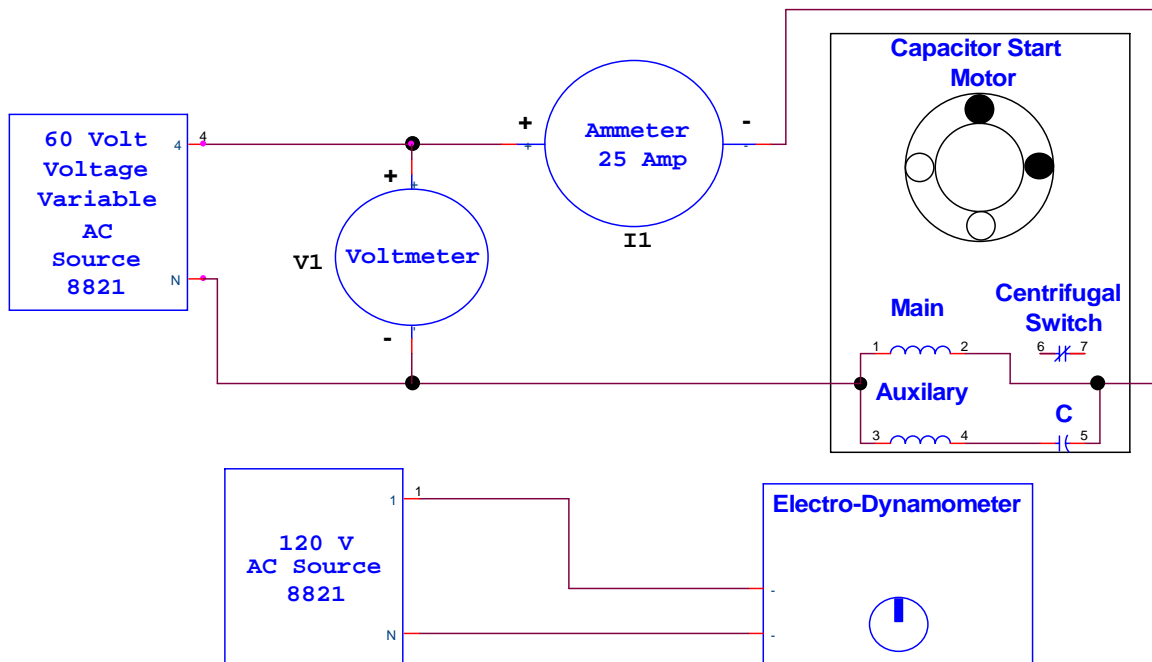

Figure 4: Capacitor start motor starting connection diagram
4. a. Connect both windings in parallel, terminals 1 to 3 and 2 to 5, as shown in Fig. 4. Note that the variable supply, terminals 4 and N are being used.